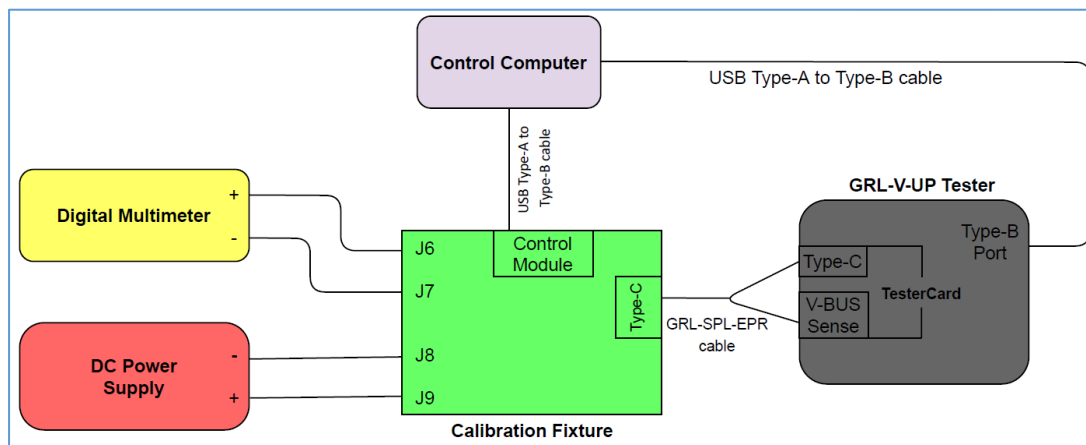

FIGURE 4.4: CONNECTION SETUP FOR GRL-V-UP MANUAL PORT VERIFICATION FOR VOLTAGE MEASUREMENTS
This section describes the connection diagram to set up the equipment and fixture for manual port verification for voltage measurements. Set up the hardware connection as shown in Figure 4.4 below.
1. Set up the hardware connection as shown in Figure 4.4.